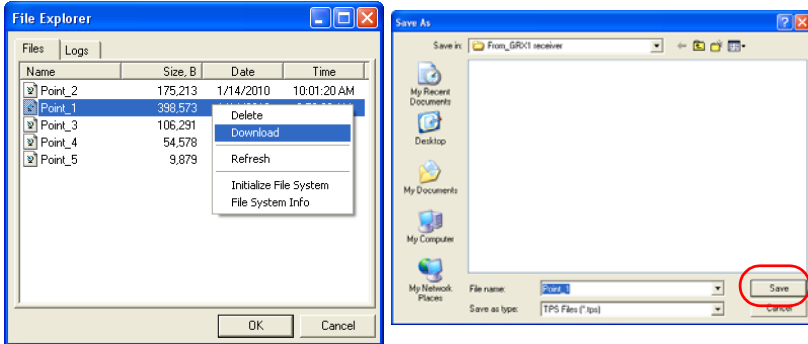

Figure 5-7. Download a File
and store the file (Figure 5-7). Click the **Save** button to download and save the file.
- 8. To save a file to the computer, highlight the desired file, right click and select **Download** from the pop up menu. In the **Save As** dialog box navigate to or create a folder in which to download and store the file (Figure 5-7). Click the **Save** button to download and save the file.